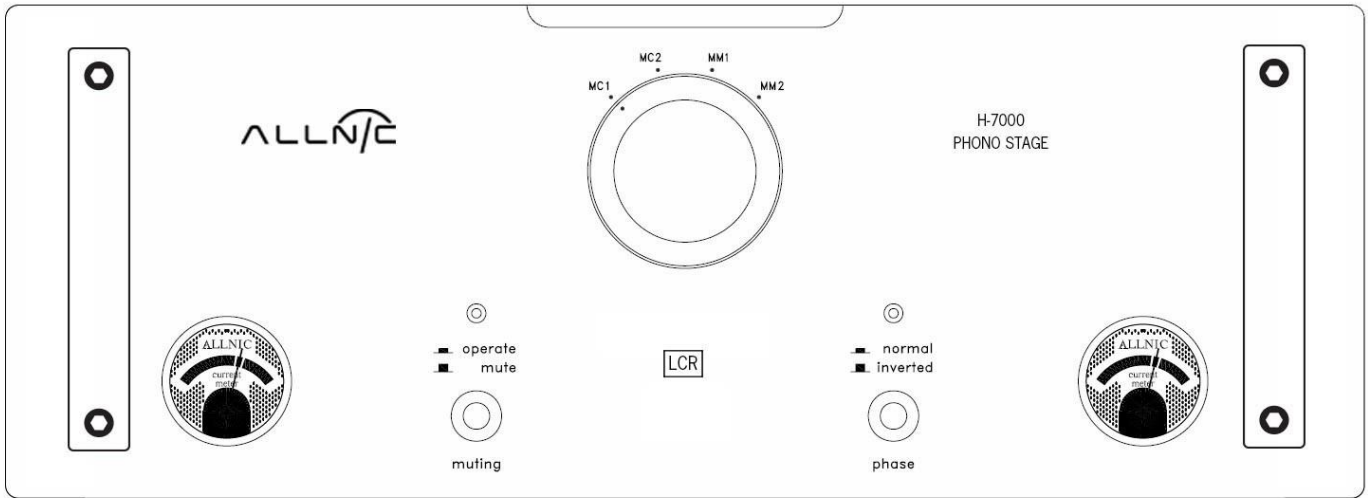

FIGURE 4: H-7000 / H-7000V Rear View
For all versions of the H-7000 / H-7000V, there are two (2) sets of two (2) pairs of single-ended (RCA) inputs. These two pairs are located in the middle of the rear of the phono stage (See Figure 4) and labeled “input” in the middle above them. Each channel pair of inputs is aligned vertically, with the left channel input at the top and the right channel input on the bottom. The two left hand pairs of inputs (facing the back of the phono stage) have an “MC1” and “MC2” label above the two left channel connectors; these are the two input pairs for a moving coil cartridge. The right hand pairs of inputs have an “MM” label above the left channel connectors, “MM1” and “MM2”; these are the two input pairs for a moving magnet cartridge. Each pair of moving coil and moving magnet connections has a number label between the left and right channel input connections.
The H-7000 / H-7000V is equipped with one pair of unbalanced or “single-ended” (RCA) outputs and one pair of true balanced (XLR) output connections. The left channel output connections are labeled “left output” and are just to the left of the DC Source Input. The right channel output connections are labeled “right output” and are on the far left hand side of the rear of the phono stage unit (See Figure 4). In each pair, the balanced (XLR) connection is labeled “1”, and the unbalanced (RCA) connection is labeled “2”.